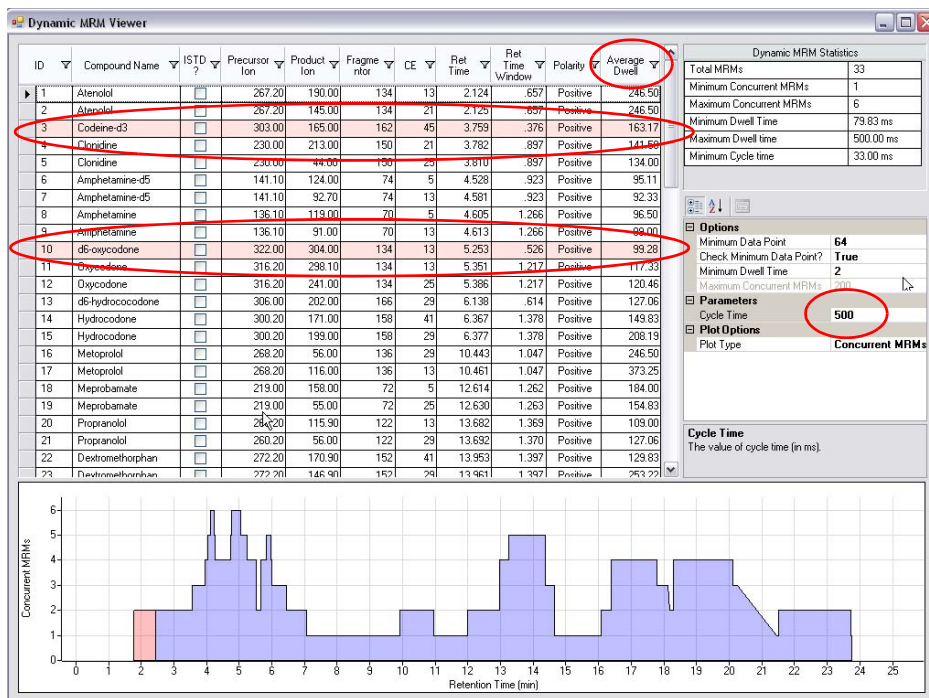

Figure 17 Dynamic MRM Viewer
The Dynamic MRM Viewer appears. It provides a powerful display to show you important details of your method. See Figure 17.
- The transition table in the Dynamic MRM Viewer shows the average dwell time of each transition based on the number of overlapping transitions and the **Cycle Time** that appears under **Parameters**. In Figure 17, the two compounds that are highlighted in pink indicate that the MS-MS integrator will not work.